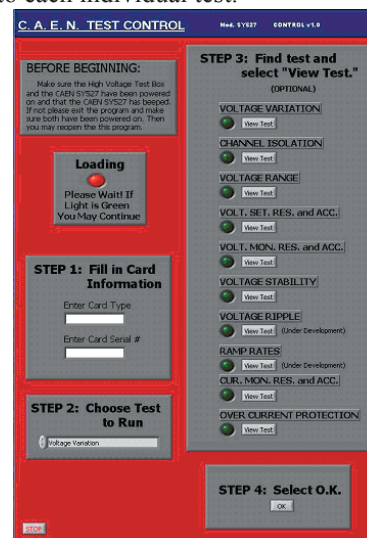

FIG.11. Cats' FP
On the Cats' front panel (FP), the "Loading" LED, Fig. 11, indicates initialization, red LED indicates Cats is preparing for testing; green indicates ready. Test card information is transmitted to each individual test.